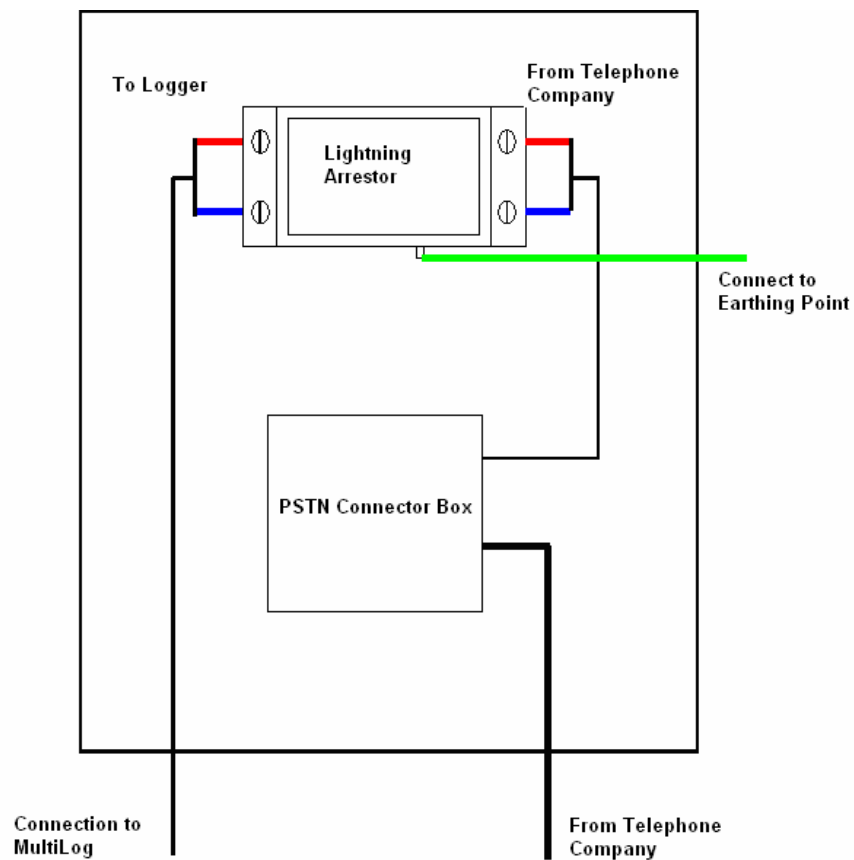

Figure 5 – Connections Inside PSTN Barrier Box/Lightning Arrestor Box
- 2) For PSTN loggers it is recommended that a surge barrier be fitted between the logger and the telephone line connection to prevent any power surges caused by electrical storms or electrical machinery or long telephone cables from the exchange causing electrical damage to the logger electronics (see Figure 5 below).